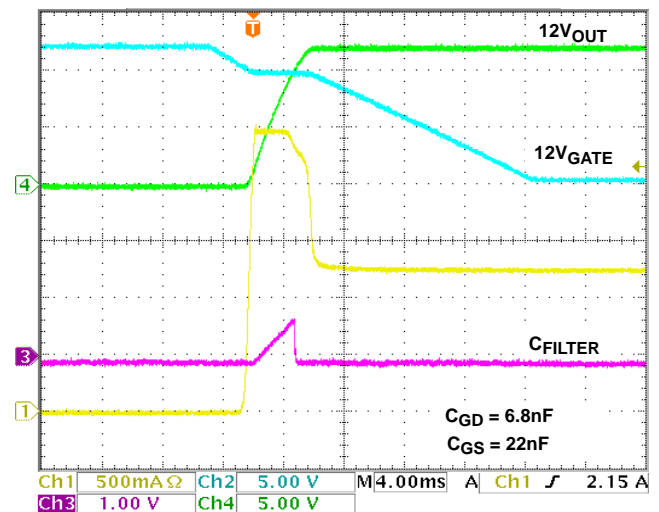
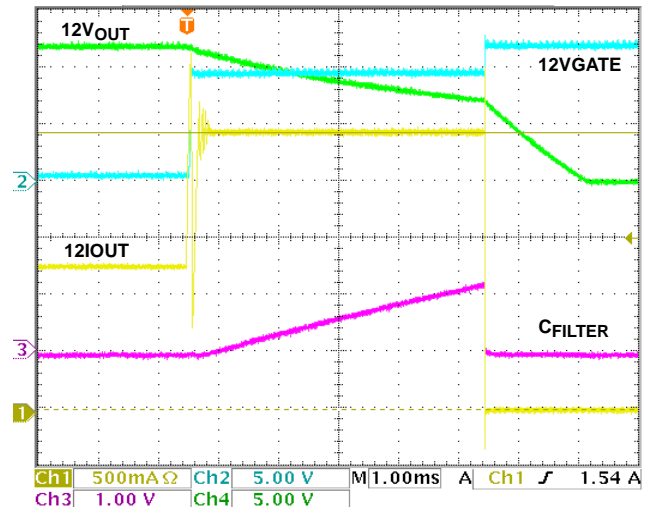
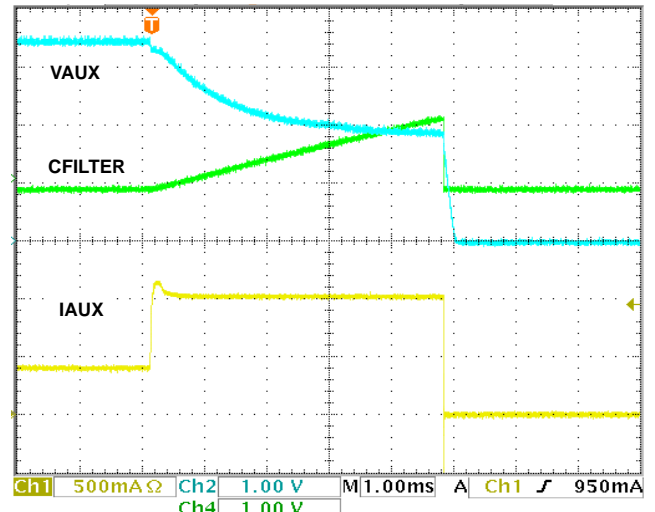

FIGURE 3. ISL6113 12VMAIN START-UP $R_{LOAD} = 10\Omega$, $C_{LOAD} = 470\mu F$
FIGURE 12. ISL6113 12VMAIN CR AND SHUTDOWN
FIGURE 16. VAUX OC REGULATION AND SHUTDOWN
Note that all of these performance estimates and guidelines are useful only for first order time and loading expectations, as they do not look at other significant loading factors. Figures 3 through 11 realistically illustrate the discussed turn-on performance topic with the noted loading and compensation conditions. Notice the degree of control over the in-rush current and the GATE ramp rate as the C_{GD} and C_{GS} values are changed providing for highly customized turn on characteristics.
The ISL6113, ISL6114 provides a current limiting function that protects the input voltage supplies against excessive current loads, including short circuits during turn-on (MAIN supplies shown in previous Figures 3 through 11) and during static operation for both MAIN (Figures 12 through 15) and AUX supplies (Figures 16 and 17). When during static operation, any load current causes $>V_{THLIMIT}$ (nominally 50mV) drop across a sense resistor thus exceeding the programmed CR limit, the
The VAUX outputs have a different circuit-breaker function. The VAUX circuit breakers do not incorporate a fast-trip detector, instead they regulate the current into a fault to avoid exceeding their operating current limit. The circuit breaker will trip due to an overcurrent on VAUX when the programmable CR duration timer, t_{FLT} expires. This use of the t_{FLT} timer prevents the circuit breaker from tripping prematurely due to brief current transients. See Figures 16 and 17 for illustrations of the VAUX protection performance into an over current (OC) and more severe OC condition respectively. The ISL6113, ISL6114 AUX current control responds proportionally to the severity of the OC condition resulting in appropriately fast VAUX pull down and current regulation until t_{FILTER} has expired.